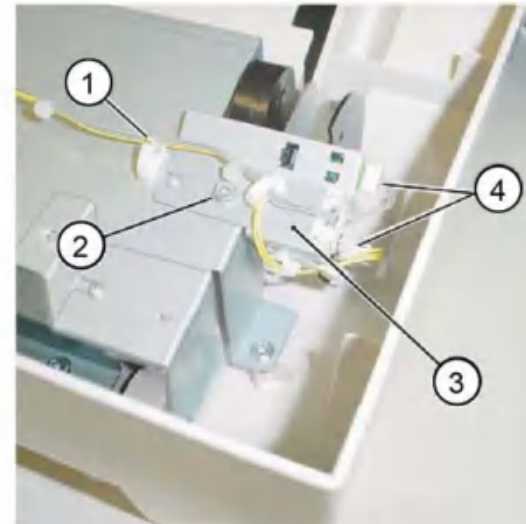

Figure 1 Stacker sensor assembly removal
- Remove the stacker sensor assembly, Figure 1:
- Release the harness from the lamp (1).
- Remove the screw (2).
- Remove the stacker sensor assembly (3).
- Disconnect the sensor connector (4), then remove the sensor from the bracket.